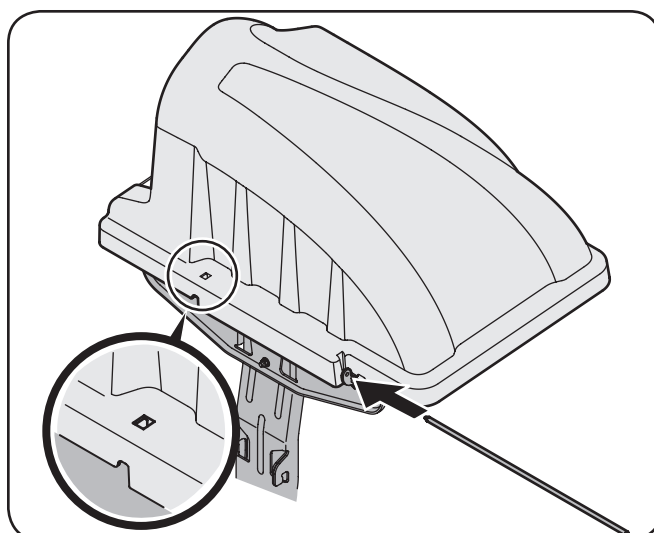
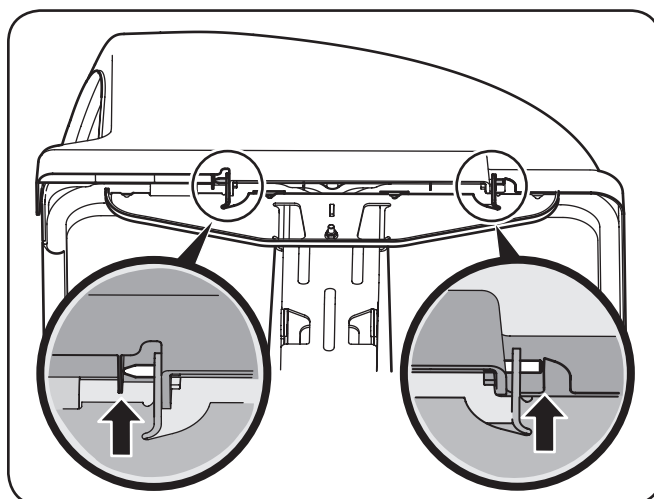

Figure 4-13
Figure 4-14
6. Slide the hinge pin into the hole located on the mounting tab, as in Fig. 4-13. Use the cut-out window (See inset in Fig. 4-13) to line up the hinge pin on the other side and push pin all the way in until it reaches the end-stop. At this point the pin clips into place and is secured by a tab in the bagger cover. See Fig. 4-14.